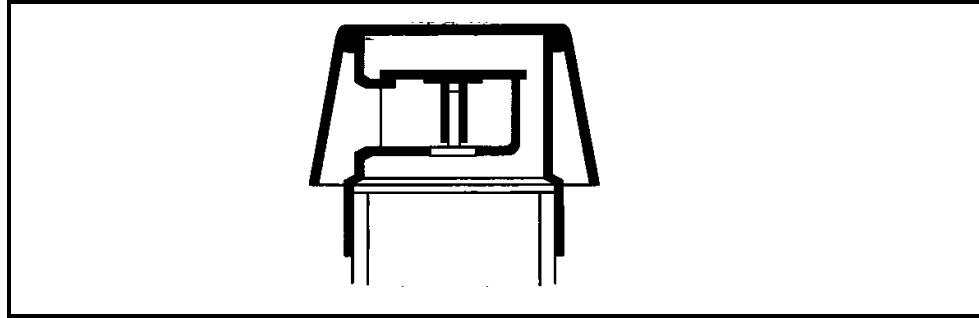

FIGURE 5.8
- 5.8 Answer the following questions with regard to the drainage fitting in FIGURE 5.8.